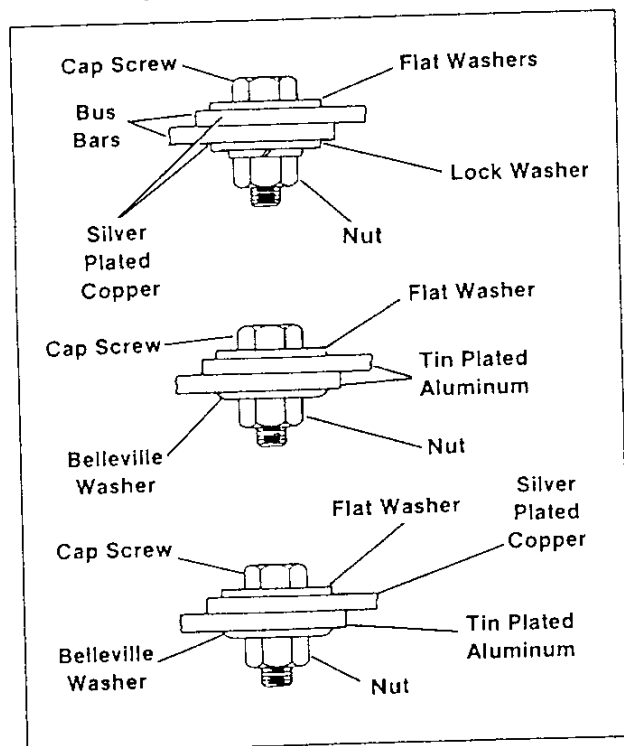

Figure 24. Method of Bolting Bus Bar Joints
4. For method of bolting joints see figure 24.
Tighten 1/2-13" steel screws to within torque range of 50-75 ft. lb. (67.8 to 101.7 N m) and silicon bronze screws to within torque range of 30-40 ft. lb. (40.7 to 54.2 N m). Arrange the hardware as shown in figure 24 with a flat washer on each side of the joint and a lockwasher between the flat washer and the nut. The only exception to this arrangement occurs when aluminum bus is used. In this case, one Belleville spring washer replaces the flat washer and lockwasher under the nut. The concave side of the Belleville spring washer is placed against the bus joint. These washers ensure an evenly distributed force about each screw and produce a low resistance joint. The torque values, noted above, produce a joint of adequate pressure without cold flow.